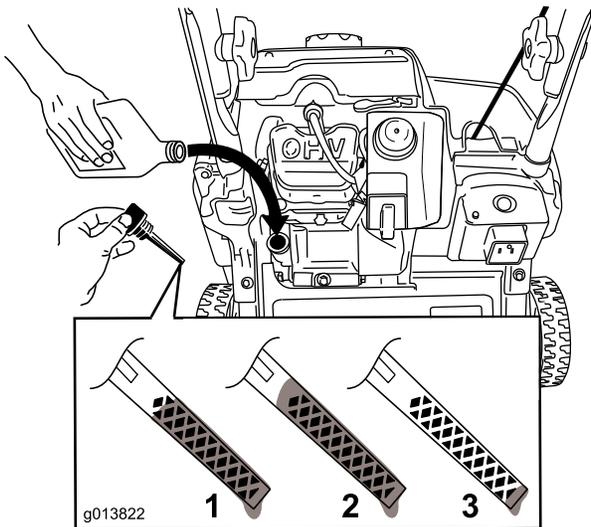

Figure 8
**Note:** To determine the proper oil level on the dipstick, refer to Figure 8.
**Note:** Fill the engine crankcase with oil until the dipstick indicates that the engine-oil level is correct as shown in Figure 8. If you overfill the engine with oil, remove the excess oil from the drain plug into an oil-drain pan.